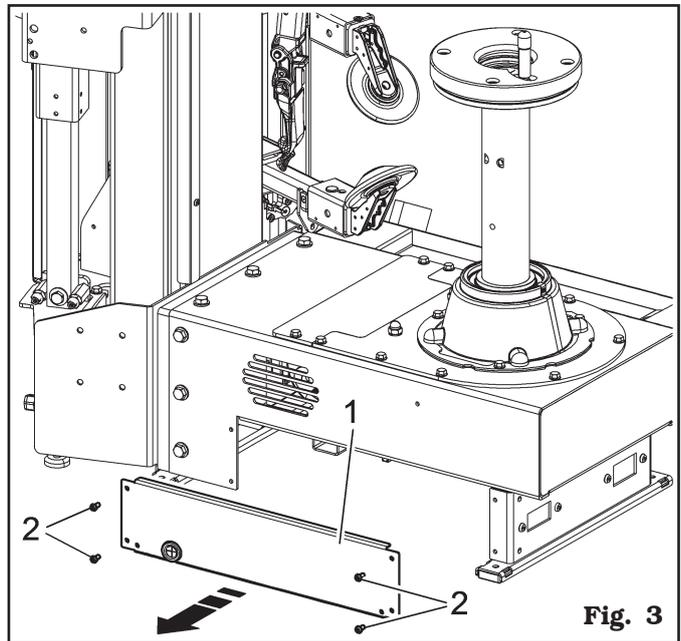

Fig. 3
- 4 - Remove the lateral guard (Fig. 3 ref. 1) unscrewing the screws (Fig. 3 ref. 2).